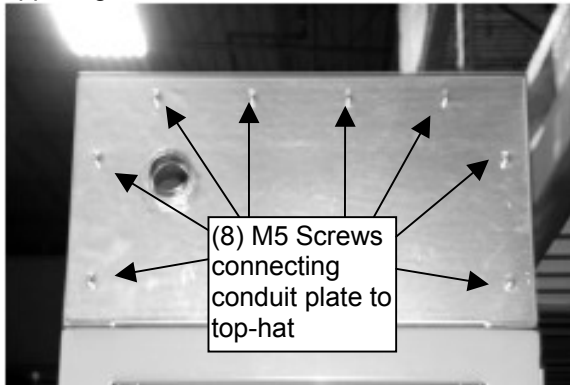

Figure 15: External view of Conduit Plate
2. Verify the M5 screws, as seen in Figure 15, are tight and securing the conduit plate to the top-hat
2. Verify the M5 screws, as seen in Figure 15, are tight and securing the conduit plate to the top hat.